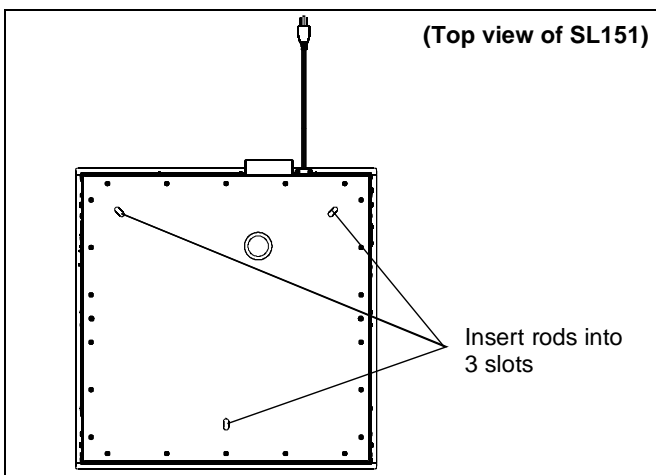

Figure 7
3. Turn SL151 over and place onto threaded rods, inserting the rods into the three slots on top of the SL151 housing. (See Figure 7)